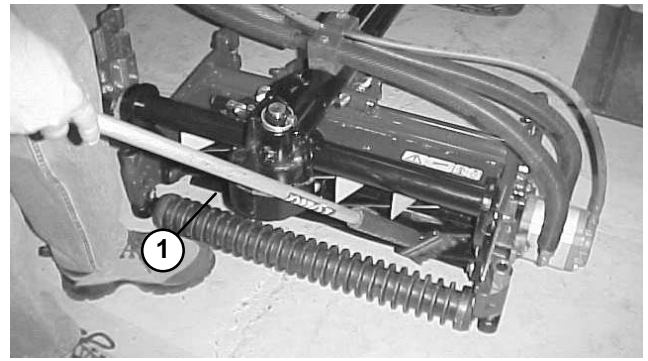

Figure 23
8. Apply lapping compound with a long handle brush (Toro Part No. 29-9100). Never use a short handled brush (Fig. 23).